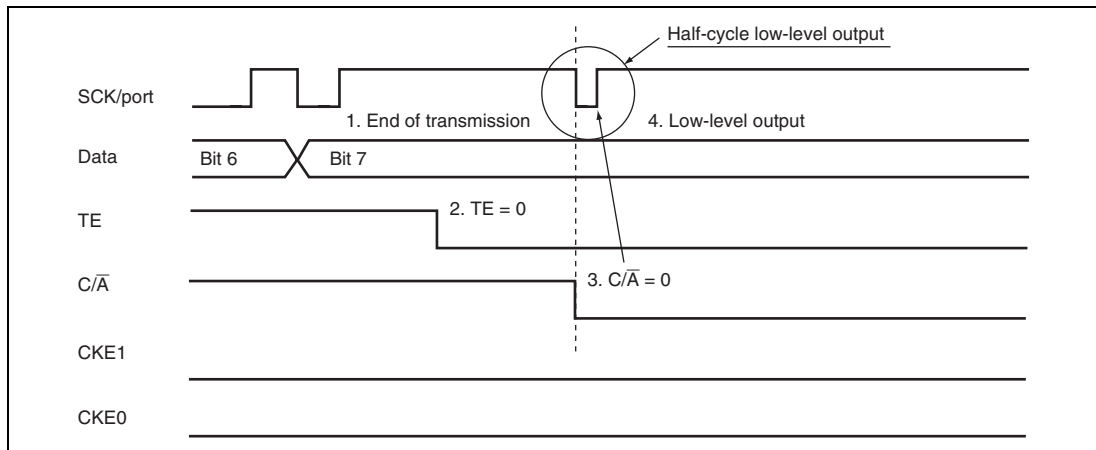

Figure 13.44 Operation when Switching from SCK Pin Function to Port Pin Function
4. Occurrence of low-level output (see figure 13.44)